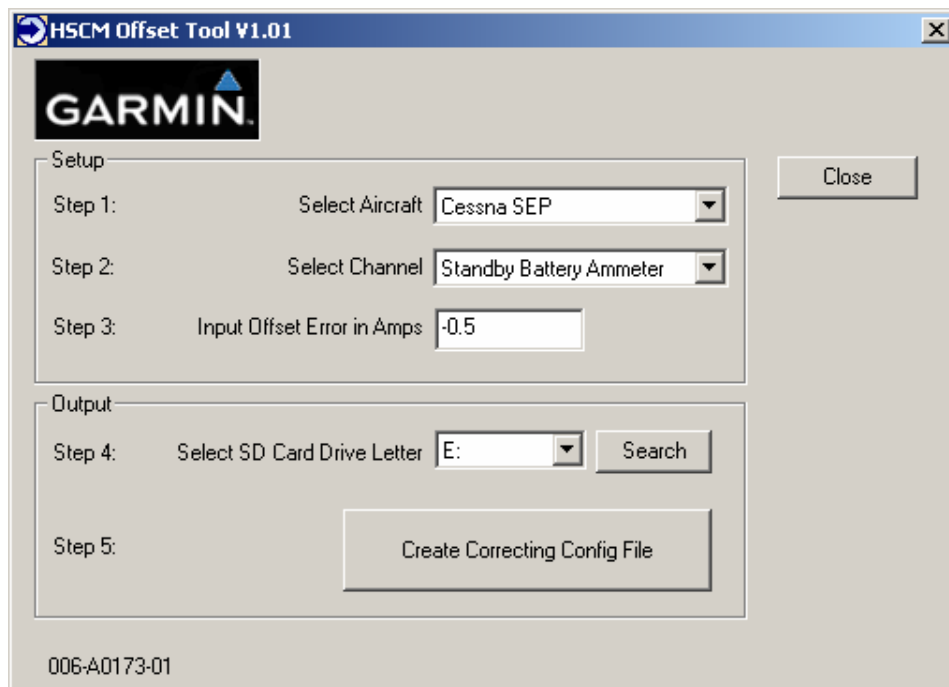

Figure 2-30. HSCM Offset Tool User Interface
35. Run the HSCM.exe program (verify interface resembles Figure 2-30).